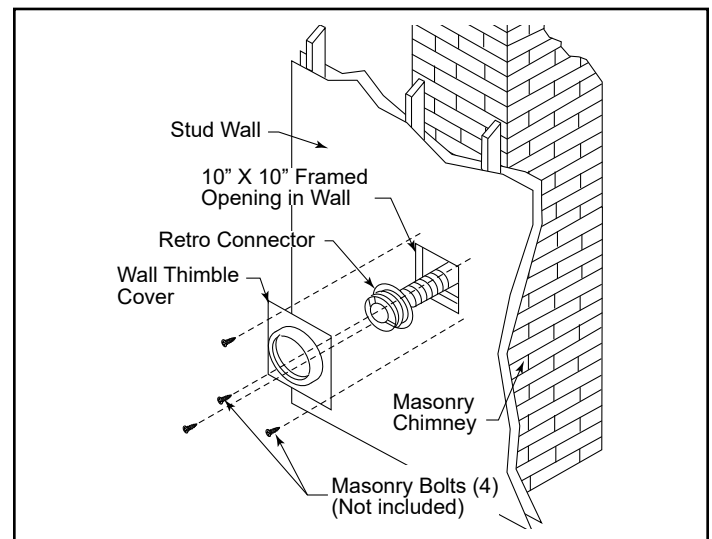

**Figure 3.51**
8. Attach the flex to the retro connector. Use three sheet metal screws to attach the flex liner to the connector, Figure 3.51. Mount the retro connector to the masonry wall using masonry bolts. Re-drill larger holes on connector as needed. Be careful to insure that the connector is centered in the opening and the mounting holes line up with the masonry wall.